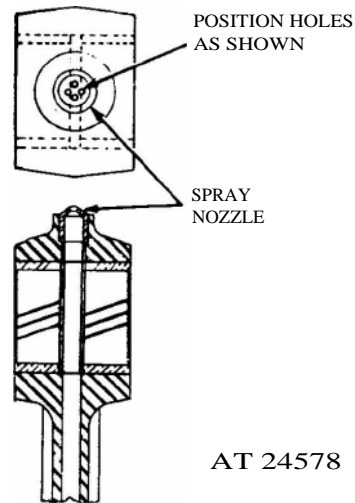

Figure 6. Location of spray nozzle in connecting rod.
1. Start the spray nozzle, with the holes positioned as shown in figure 6, straight into the counterbore in the top of the connecting rod.